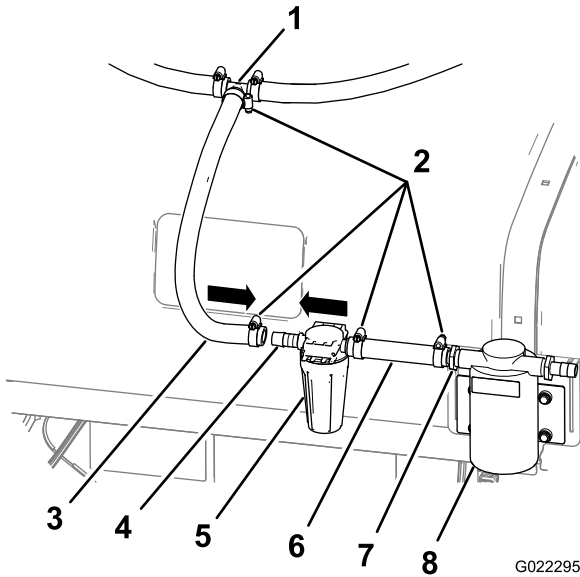

Figure 11
1. Attach one end of the 42 cm (16.5 inch) hose to the T-fitting with a hose clamp (Figure 11).
2. Attach the other end of the hose to the rinse pump filter with a hose clamp (Figure 11).
3. Attach the 15 cm (6 inch) hose to the other side of the rinse pump filter with a hose clamp (Figure 11).
4. Attach the other end of the hose to the rear hose barb on the rinse pump with a hose clamp (Figure 11).